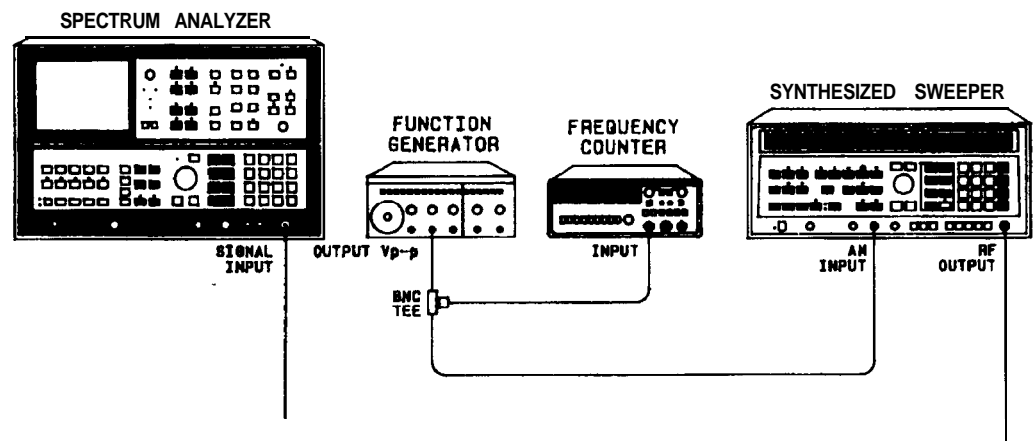

Figure 2-33. **Fast Sweep Time Accuracy (<20 ms Test Setup)**
1. Connect equipment as shown in Figure 2-33.